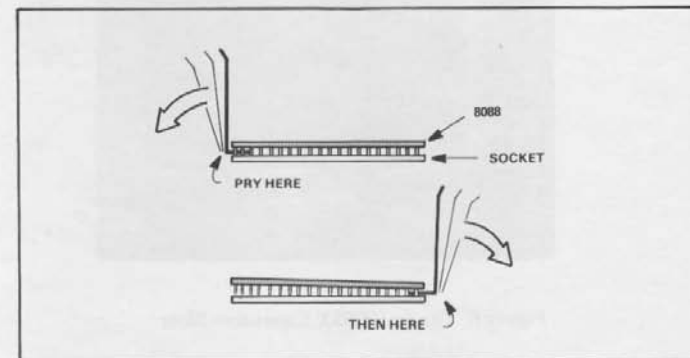

Figure 7. Using the IC Extraction Tool
6. Use the IC extraction tool as shown in Figure 7 to remove your computer's 8088 processor chip. Working slowly and carefully, pry up on one side, then the other, **little by little**, until the chip comes free. If you try to do too much too soon you'll bend the chip's leads, making it hard to reinsert later.